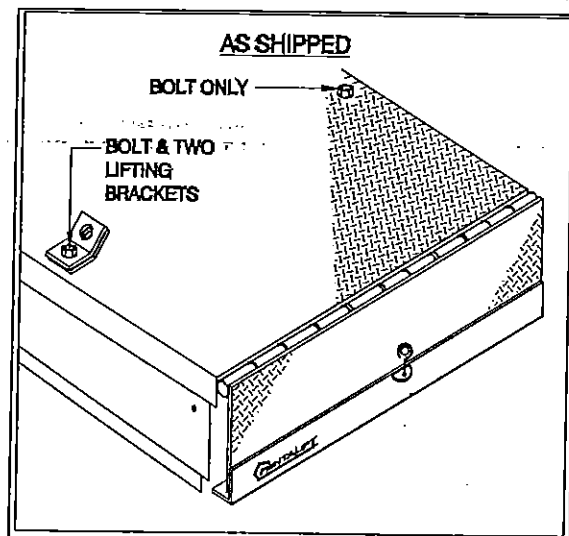
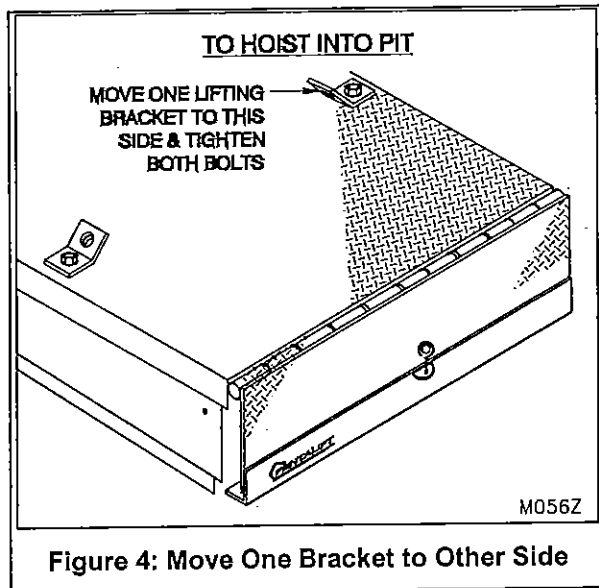

Figure 3: Remove Double Lifting Bracket
Figure 4: Move One Bracket to Other Side
9. The leveler is shipped with both lifting brackets bolted to one side of the platform. (See Figure 3, page 4) Before attempting to lift the leveler, remove the bolt holding the lifting brackets on and remove one of the brackets. Using the bolt supplied, bolt the bracket that was removed to the opposite side of the leveler platform. (See Figure 4, page 5).